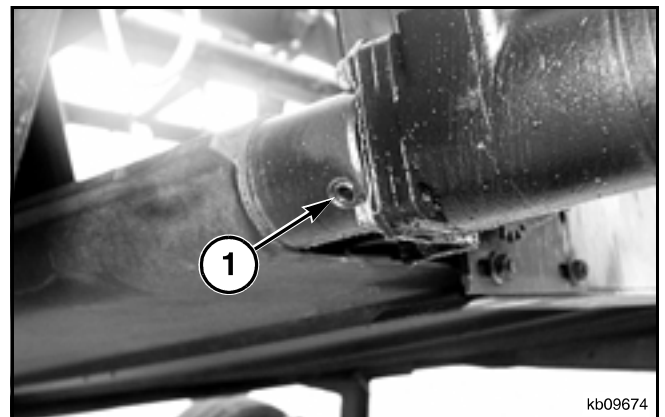

FIG. 72
FIG. 72: Tighten the two 1/2-20 X 3/4 inch cup point square head set screws (1) holding the motor shaft in the canvas driver roller. Tighten the set screw on the opposite side of the key first.